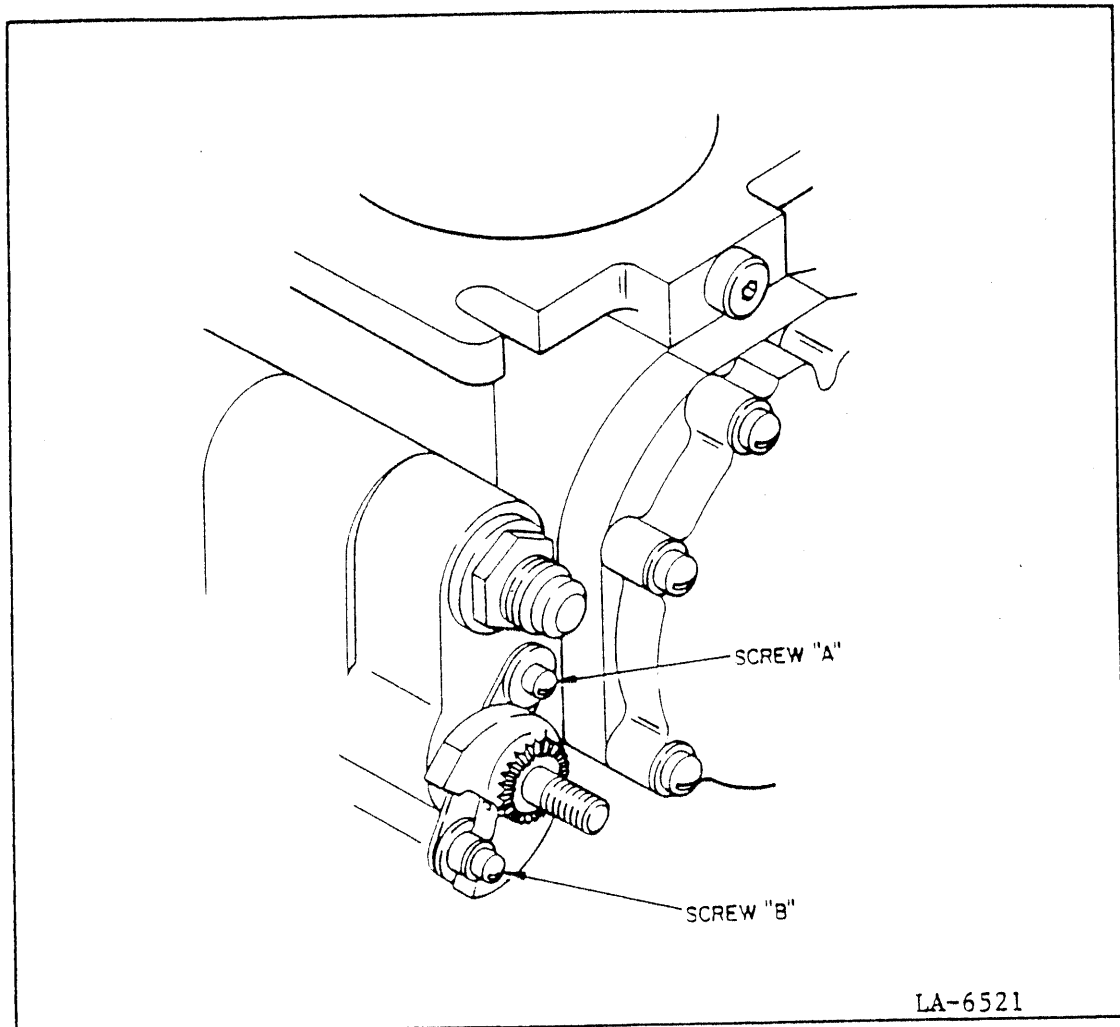

Figure 1. Mixture Control Location
- (1) Remove manual mixture control assembly (Figure 1) from injector housing.
- (2) Remove mixture control plate P/N 2537657 from injector housing and replace with new mixture control plate P/N 2541326.
- (3) Apply a thin film of ASTM No. 5 oil to the back side of the plate which contacts the mixture control valve.